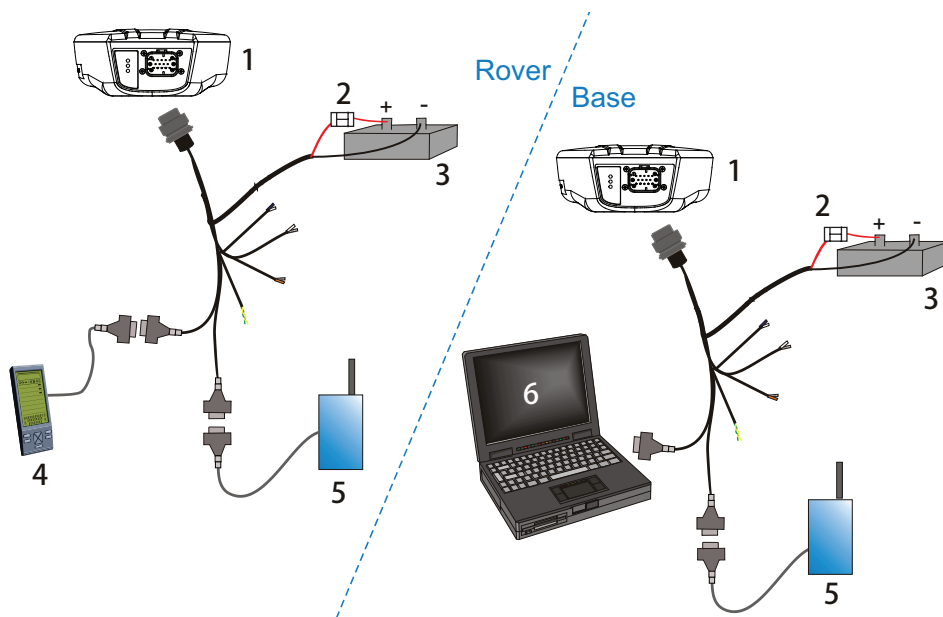

Figure 7: Basic Differential Setup
Before operating the SMART-AG for the first time, please ensure that you have followed the installation instructions in *Chapter 2, Installation and Setup* starting on *Page 20*. The following instructions are based on a COM port configuration such as that shown in *Figure 7 on Page 30*. It is assumed that a personal computer (PC), or laptop, is used during initial operation and testing for greater ease and versatility.
RTK or DGPS corrections can be transmitted from a base station to a rover station to improve position accuracy. The base station is the GNSS receiver, which is acting as the stationary reference. It has a known position and transmits correction messages to the rover station. The rover station is the GNSS receiver which does not know its exact position and can be sent correction messages from a base station to calculate differential GNSS positions. The SMART-AG can be used as a base receiver to transmit RTK or DGPS corrections or a rover to receive the same corrections. An example of a differential setup is given in *Figure 7 on Page 30*.